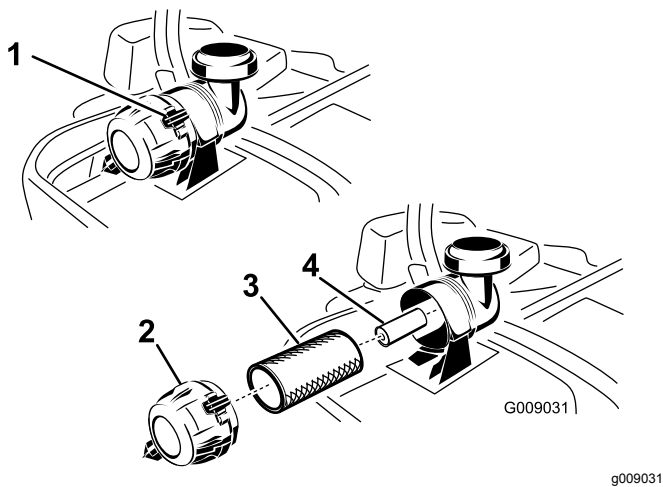

Figure 49
3. Push down to release the retaining clamps on the air cleaner and pull the air cleaner cover off of the air-cleaner body (Figure 49).
5. Gently slide the primary filter out of the air cleaner body (Figure 49). Avoid knocking the filter into the side of the body.
1. Do not clean the paper filter, replace it (Figure 49).
2. If the secondary filter is being replaced, carefully slide it into the filter body (Figure 49).
3. Carefully slide the primary filter over the secondary filter (Figure 49). Ensure that it is fully seated by pushing on the outer rim of the filter while installing it.
4. Install the air cleaner cover with the breather cap down and rotate so the retaining clamps lock the cover in place (Figure 49).